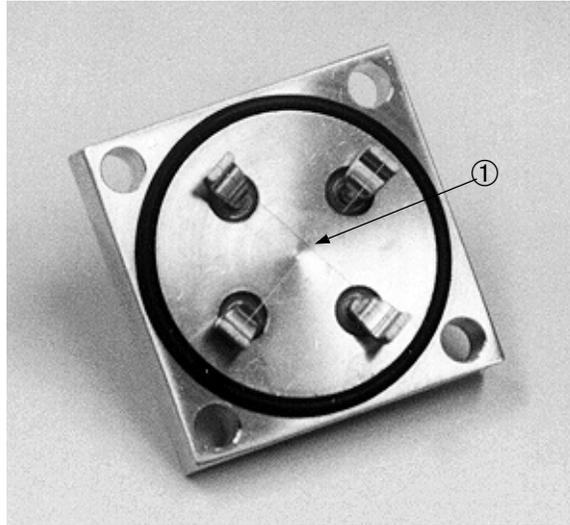

Figure 5-8 Button TC
3. Remove the button TC carefully and place it sensing wire ① side up as shown in Figure 5-8, (contact pin side down) on a clean surface.